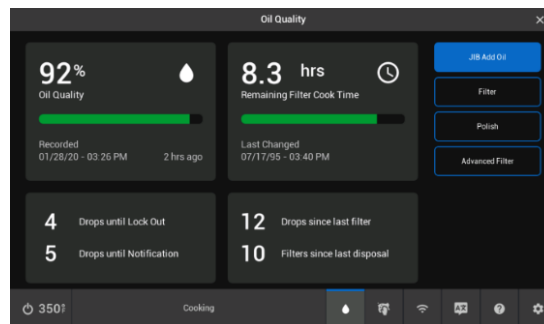

Figure 98 - Oil Quality Screen-Auto
- Click  to open **Figure 98** (shown with FDF enabled)